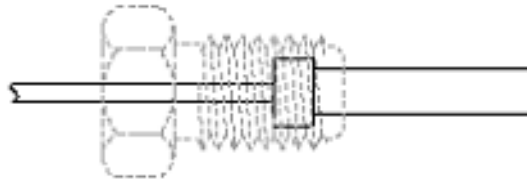

Figure 36 Adding the nut
- 3 Slide the small end of the liner into the nut, making sure that the step of the liner goes all the way to the bottom of the counterbore in the nut (Figure 36).